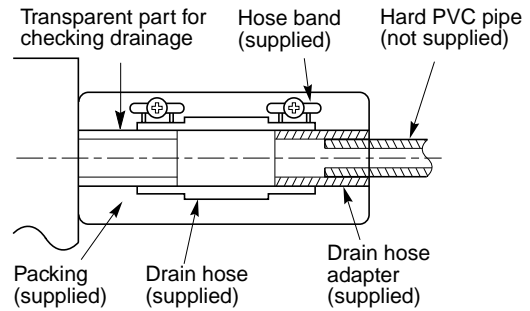

Fig. 2-6
- Prepare standard hard PVC pipe for the drain and use the supplied drain hose and hose band to prevent water leaks. The PVC pipe must be purchased separately. The transparent part allows you to check drain-age. (Fig. 2-6)
Tighten the hose clamps so their locking nuts face upward. (Fig. 2-6)